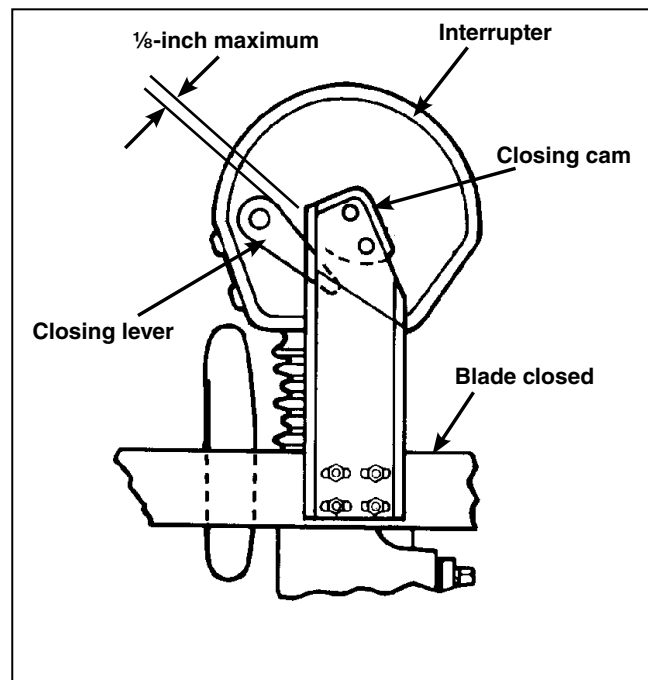

Figure 21. Blade assembly in the fully closed position.
- When the blade is in the fully **Closed** position, each blade-closing cam must overlap its respective interrupter-closing lever to prevent inadvertent opening of the interrupter, and clearance between the blade-closing cam and its respective interrupter-closing lever must be within the limit shown. See Figure 21.